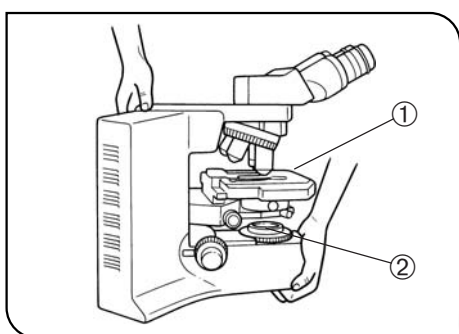

Fig. 3
3. When moving the microscope, remove the specimen and modules that may drop during transport and carefully carry it with the grasping part on the rear of the arm and the base as shown in Fig. 3 (Weight: approx. 13 kg). Be sure to remove the specimen ① that is likely to drop and the filter ② on the filter mount.